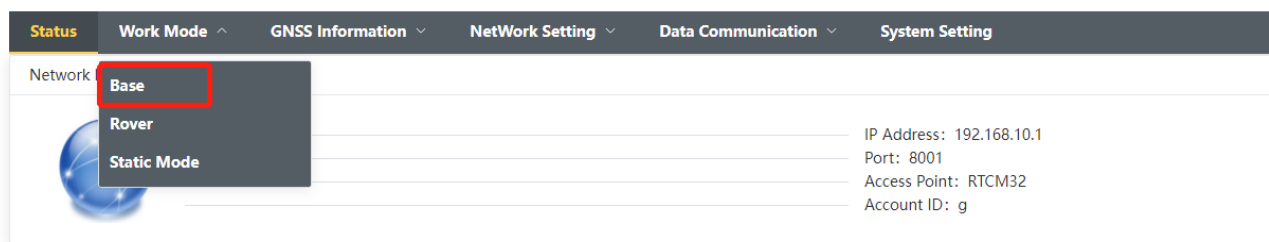

Figure 3-2-1
The L300/L600 is available to be set as **Base**, and can be started as internal **UHF/Network/Ntrip Ca**ster. Check the **Base** in work mode field as shown in Figure 3-2-1.
2. Select the **Base** work mode field, set the coordinate, antenna height, the differential message type, PDOP and mask angle as shown in Figure 3-2-1-1.